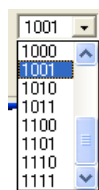

Figure 3-43
- (1) Click the network by mouse, CPVRS can select to the specified network.
- (2) Click the network switch by mouse, CPVRS can select the specified network.
- (3) Click the mouse, a menu as Figure 3-43 will show up. Users can select the switch network.